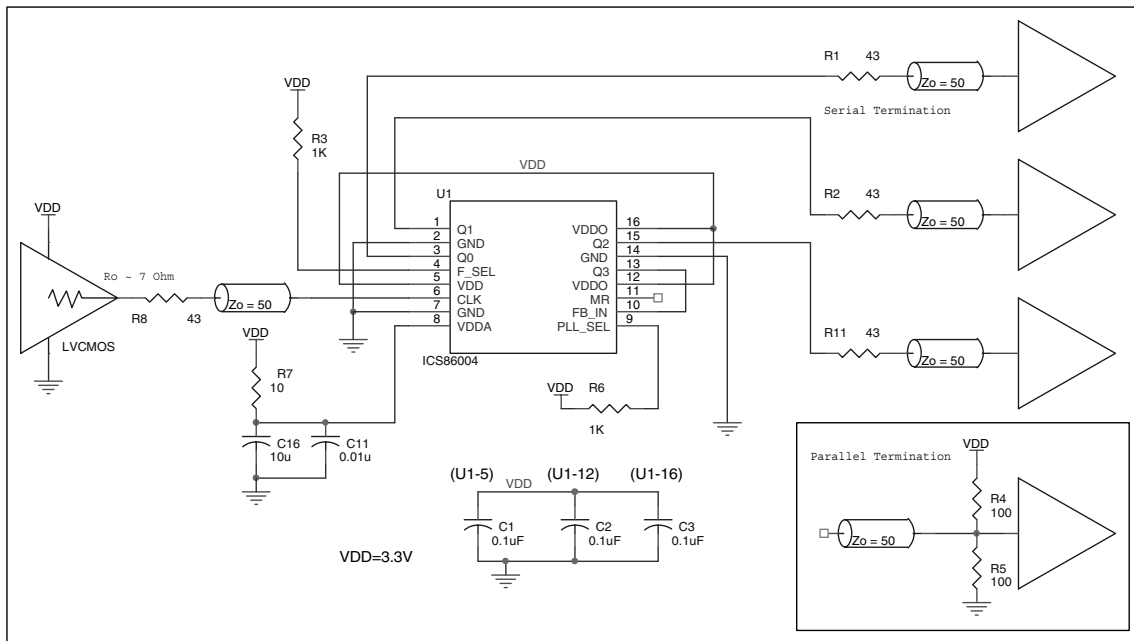

FIGURE 2. ICS86004 SCHEMATIC EXAMPLE
*Figure 2* shows a schematic example of using an ICS86004. It is recommended to have one decouple capacitor per power pin. Each decoupling capacitor should be located as close as possible